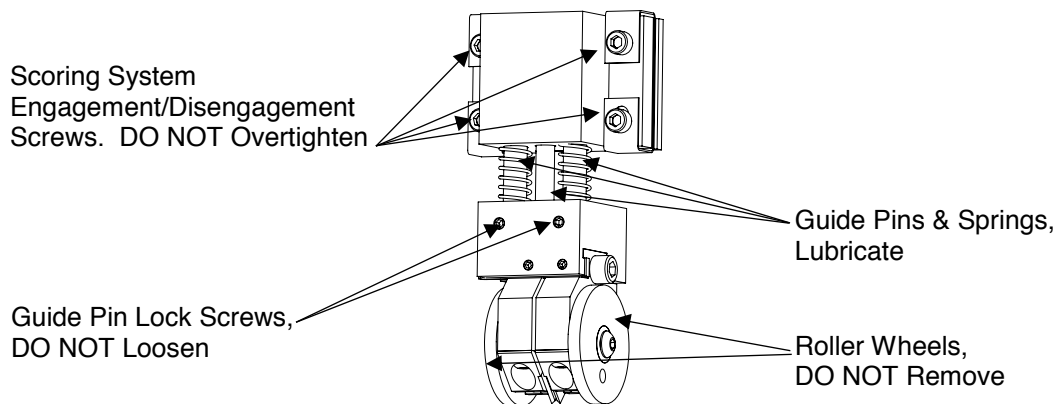

Figure 39: Scoring System Maintenance
2. Lubricate guide pins with lightweight machine oil or silicone spray as necessary (Fig. 39).